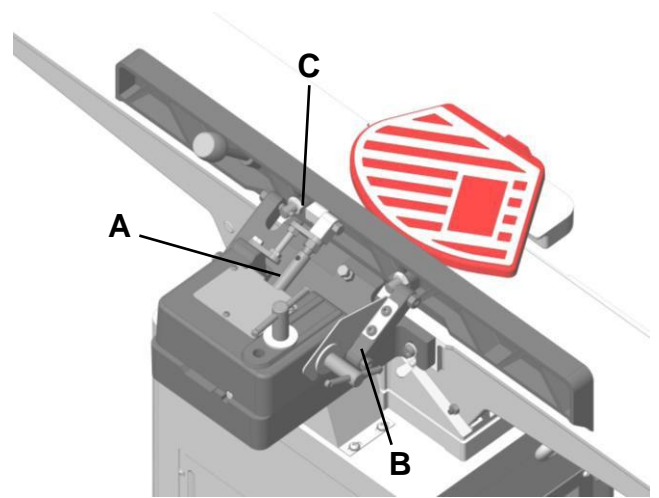

Fig. 24
Fence adjustments are made with the lock handles shown in Figure 24. To slide the fence forward or back on the table, loosen lock handle (A), slide the fence to the desired position and tighten handle (A) to secure fence.
1. Loosen locking bolt (B), Figure 24.
3. Adjust the fence to the desired angle and tighten locking bolt (B) to secure the fence.
2. Flip back the stop block (C).
3. Adjust the fence to the desired angle and tighten locking bolt (B) to secure fence.
Note: The handle (A, Figure 24) can be adjusted to a more convenient position by loosening the nuts on its opposite end, turning the handle to the proper position, and retightening the nuts.